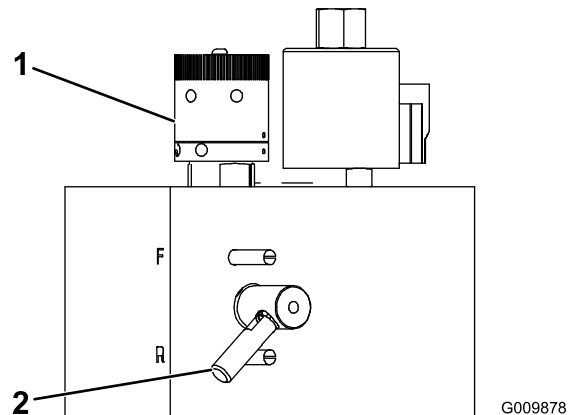

Figure 64
3. Rotate the backlap knob, on the valve block (Figure 64), clockwise to the backlap position. Rotate the reel speed knob (Figure 64) to position 1.